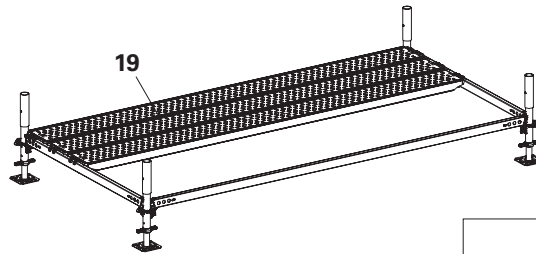
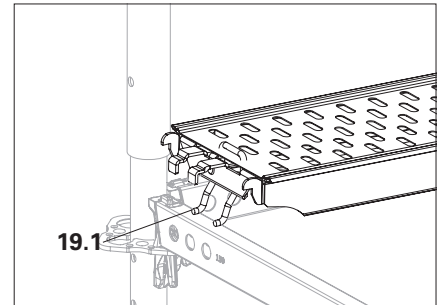

Fig. B3.03
Fig. B3.03a
4. Fit Steel Decks UDG-2 (19) in the base level as an installation aid. (Fig. B3.03 + Fig. B3.03a)